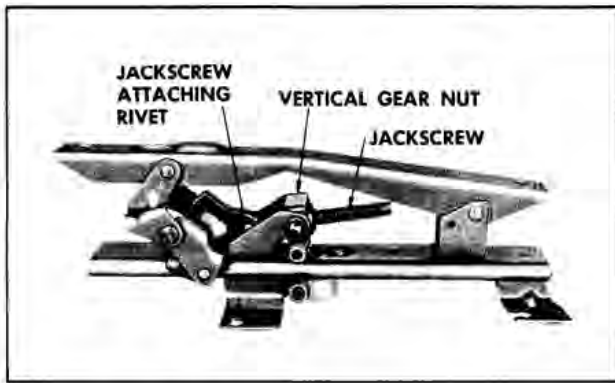

Fig. 16-386 Seat Adjuster - Four-Way Tilt
2. Remove seat adjuster-to-seat bottom frame front and rear attaching bolts on side affected. (Fig. 16-386)
3. As a bench operation, remove jackscrew-to-adjuster linkage attaching rivet and remove jackscrew from adjuster assembly. (Fig. 16-386)